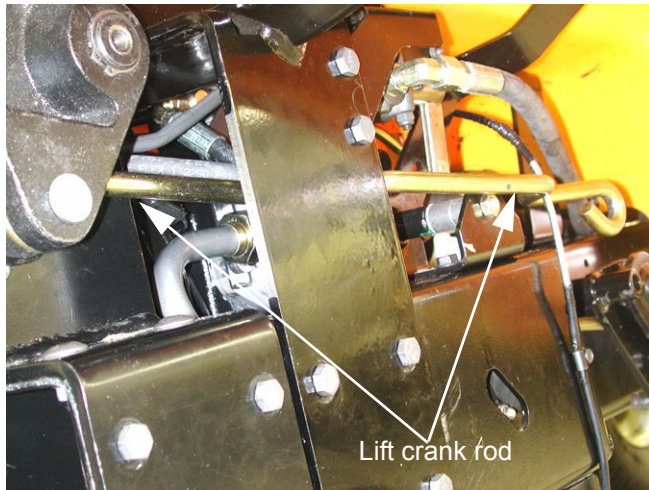

Figure 1.11
- 1.11. Install the lift crank rod from the back of the tractor. The rolled eyelets at each end of the rod should face down. The off-set section at the center of the rod should face out, away from the frame, and the longer end of the rod should be toward the back of the tractor. See Figure 1.11.